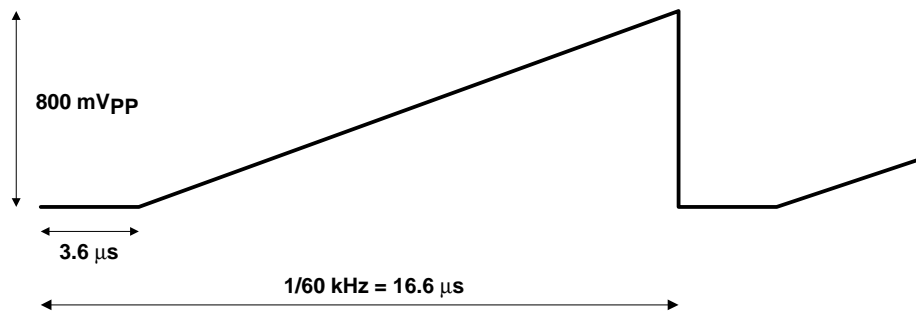

Figure 5–1. Input Test Waveform
- SYSTEM_INTREF, with an input signal other than the ramp-shape input test waveform of Figure 5–1.